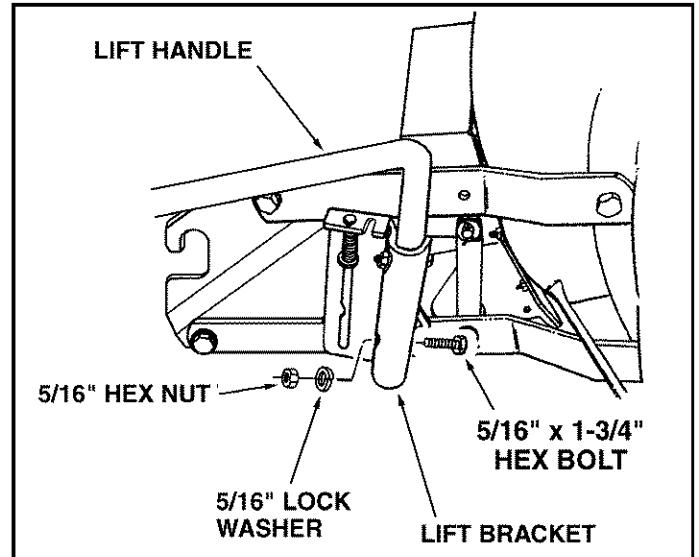

FIGURE 23 RIGHT SIDE VIEW
- Place the lift handle into the lift bracket on the right side of the snow thrower. Fasten the handle to the bracket using two 5/16" x 1-3/4" hex bolts, 5/16" lock washers and 5/16" hex nuts. See figure 23.